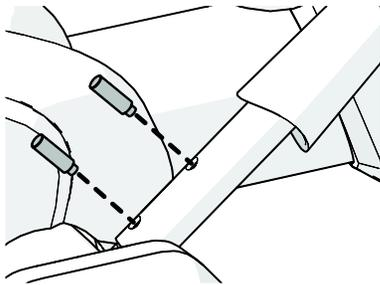

Figure 17
1. Remove the two set screws from one handlebar (see Figure 17).